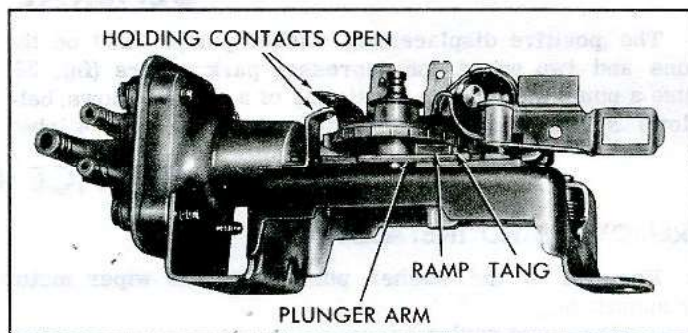

Fig. 39—Releasing Pump from Lockout Position
- b. Manually operate pump clockwise to release pump from "lock-out" position (fig. 39).